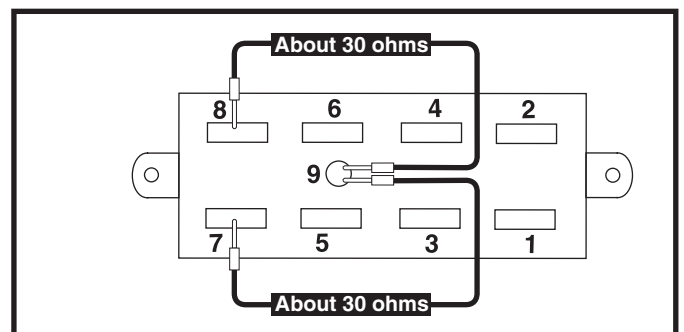

Figure 37. Connector 2a
2. Measure resistance across pin 7 and pin 9 and across pin 8 and pin 9 on connector 2a. See figure 37.